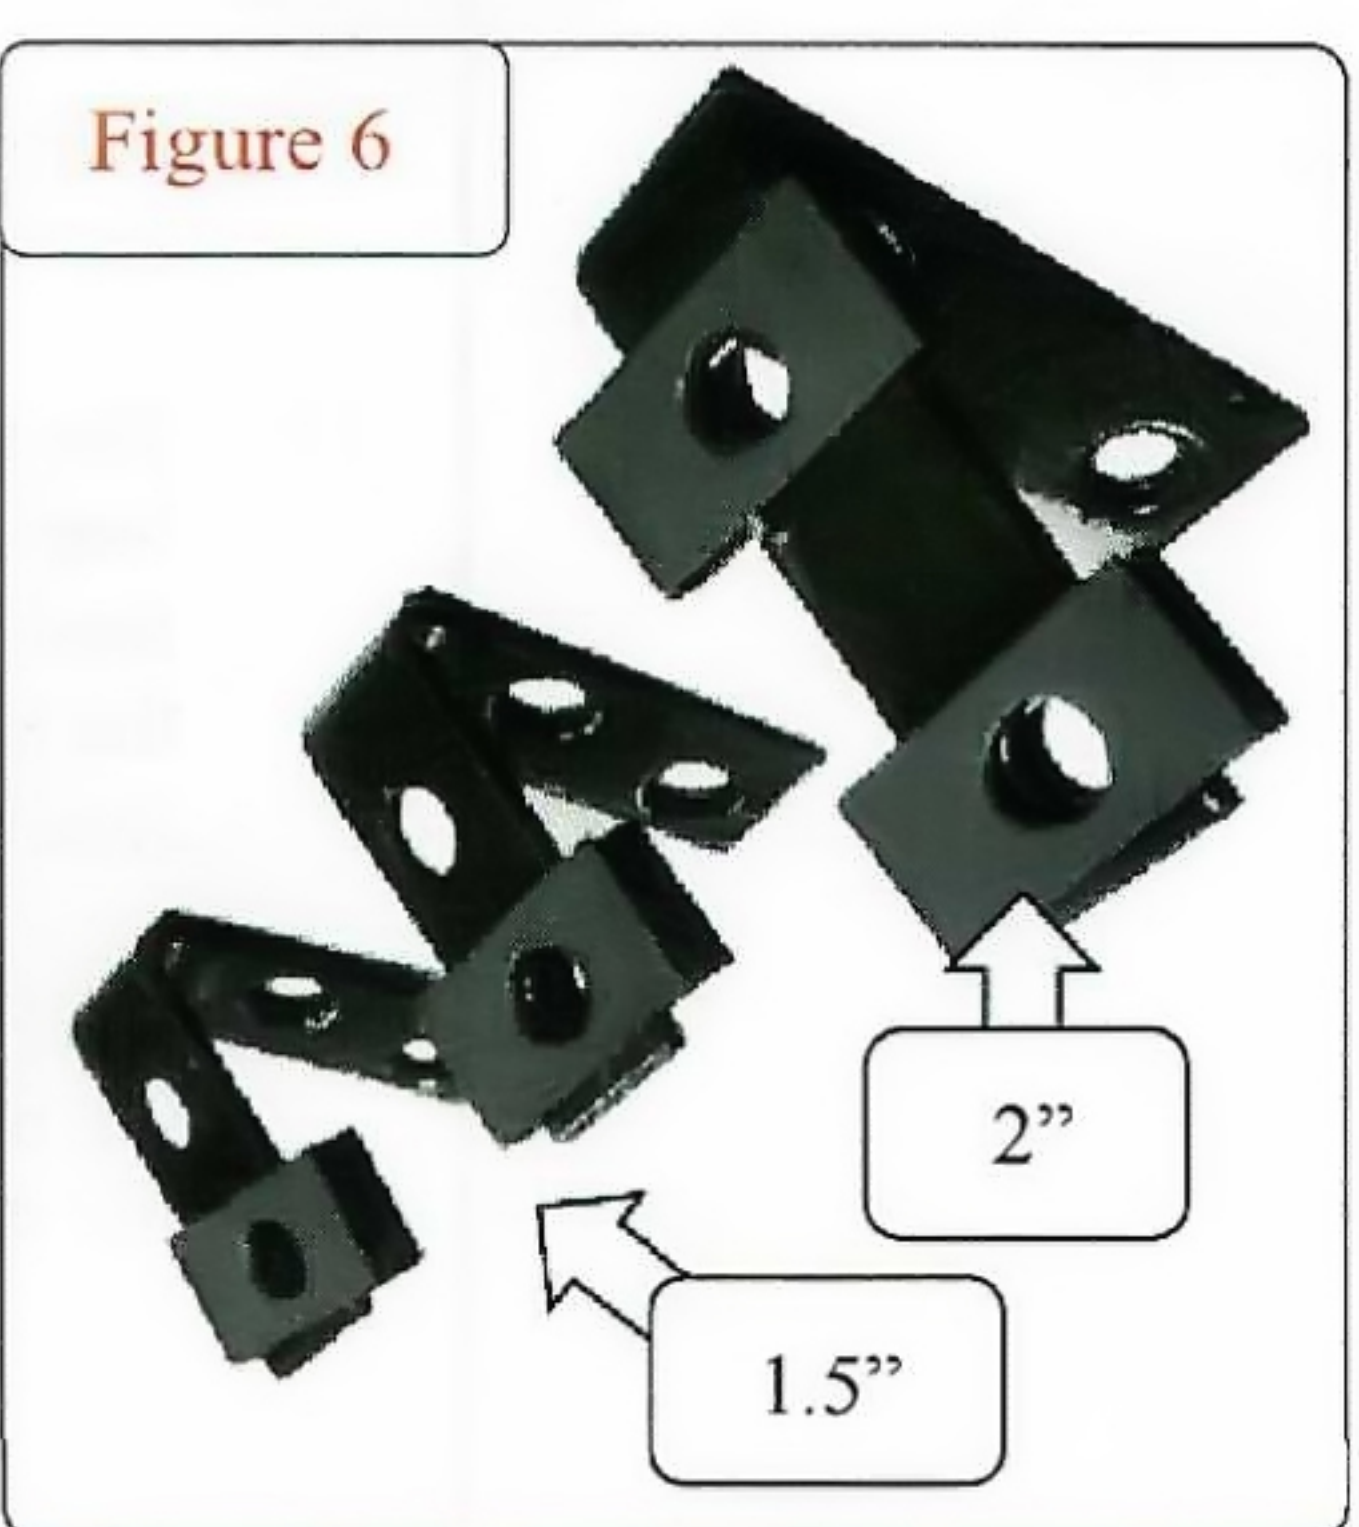

Figure 6
- 9) Add U-nuts to the 2" and 1.5" brackets (Figure 6).